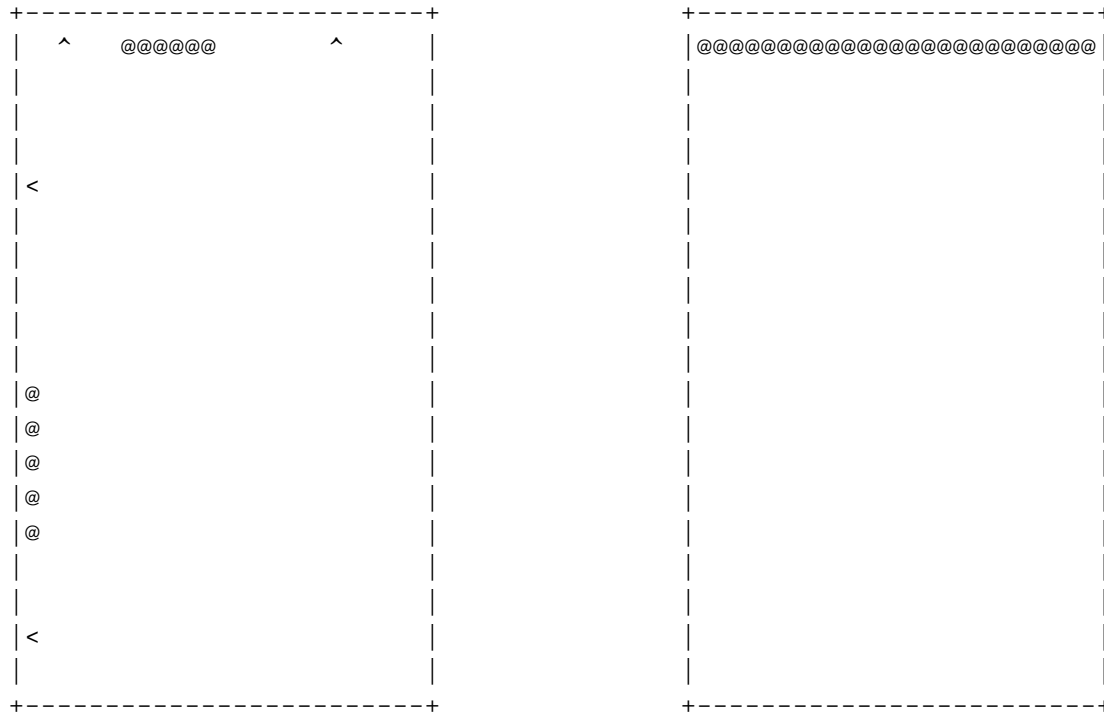

FIGURE 1- Correct transparency orientation
- Insert Color LaserWriter transparencies as shown in figure 1, other orientations will cause jams. When using transparency type #2 leave the tape side up when placing them in the multi-purpose tray.